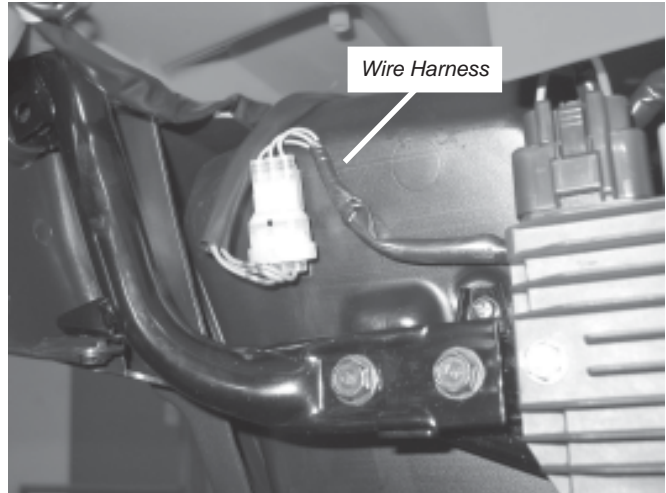

Figure 12 Remove Wire Harness from Bracket
- b. Remove the wire harness, figure 12, from the bracket that holds the wire harness in position.